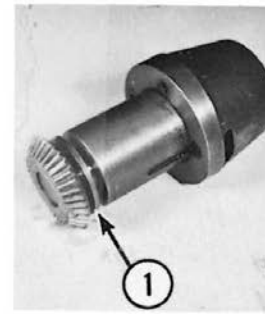

Fig. 3-34
- T. If change is made in the thickness of shim washers, it may be necessary to change attachment hub thrust washer (1, Fig. 3-34) to preserve bevel gear contact. Refer to Catalog of Replacement Parts.